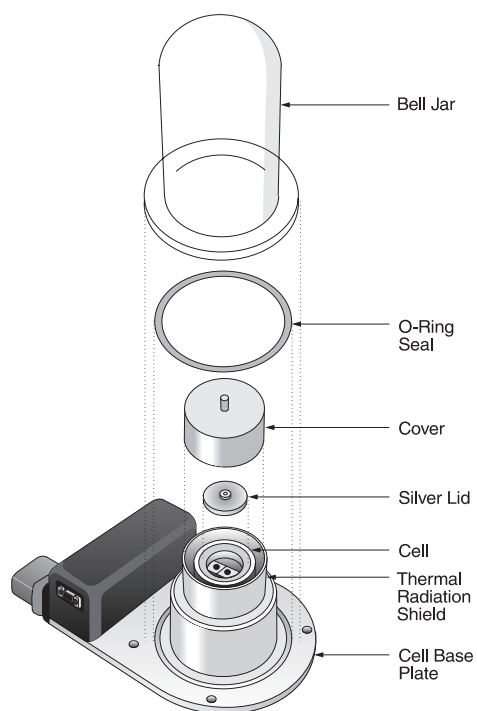

Figure 2.11
1. Remove the bell jar, O-ring seal, and cell cover, from the DSC Cell (see Figure 2.11).